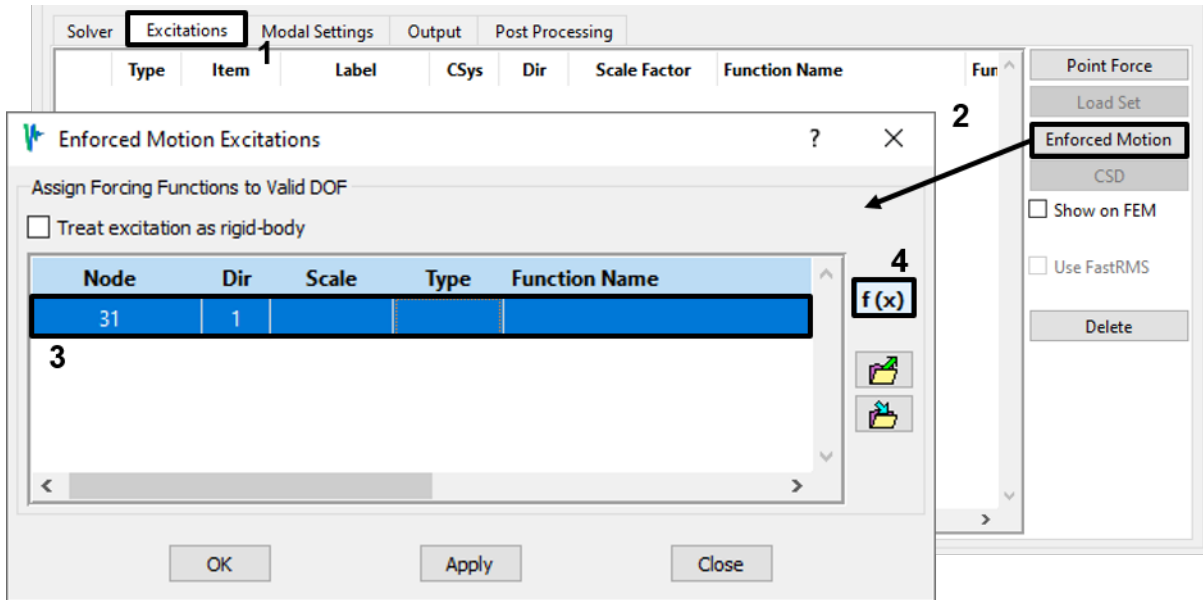

Figure 4-11. Create a new enforced motion excitation.
- b. On the *Enforced Motion* dialog, select the one available DOF and assign an excitation function to it by clicking the **f(x)** button to bring up the Function Manager (Figure 4-11).